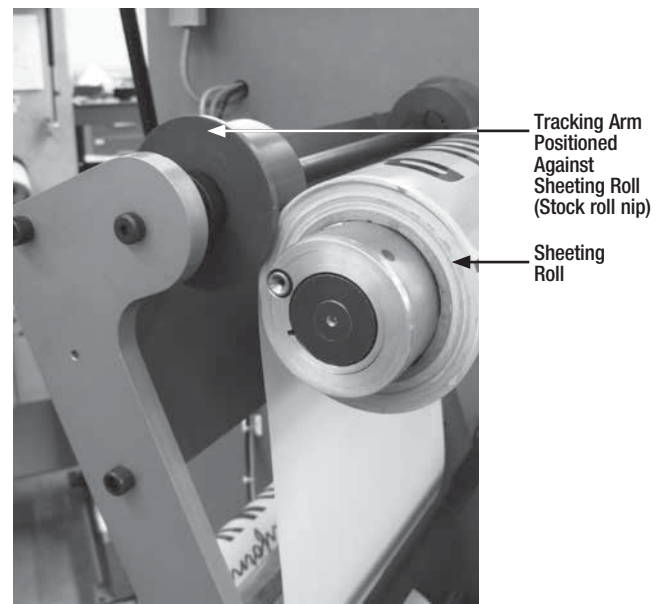

Figure 8
- h. Pull the sheeting roll out about one inch. Raise the tracking arm by hand against the sheeting roll. Move the sheeting roll until the roll edge fits between the guide roller flanges on the tracking arm (Figure 8). Close the stock nip by selecting CLOSE with the Stock Roll switch.